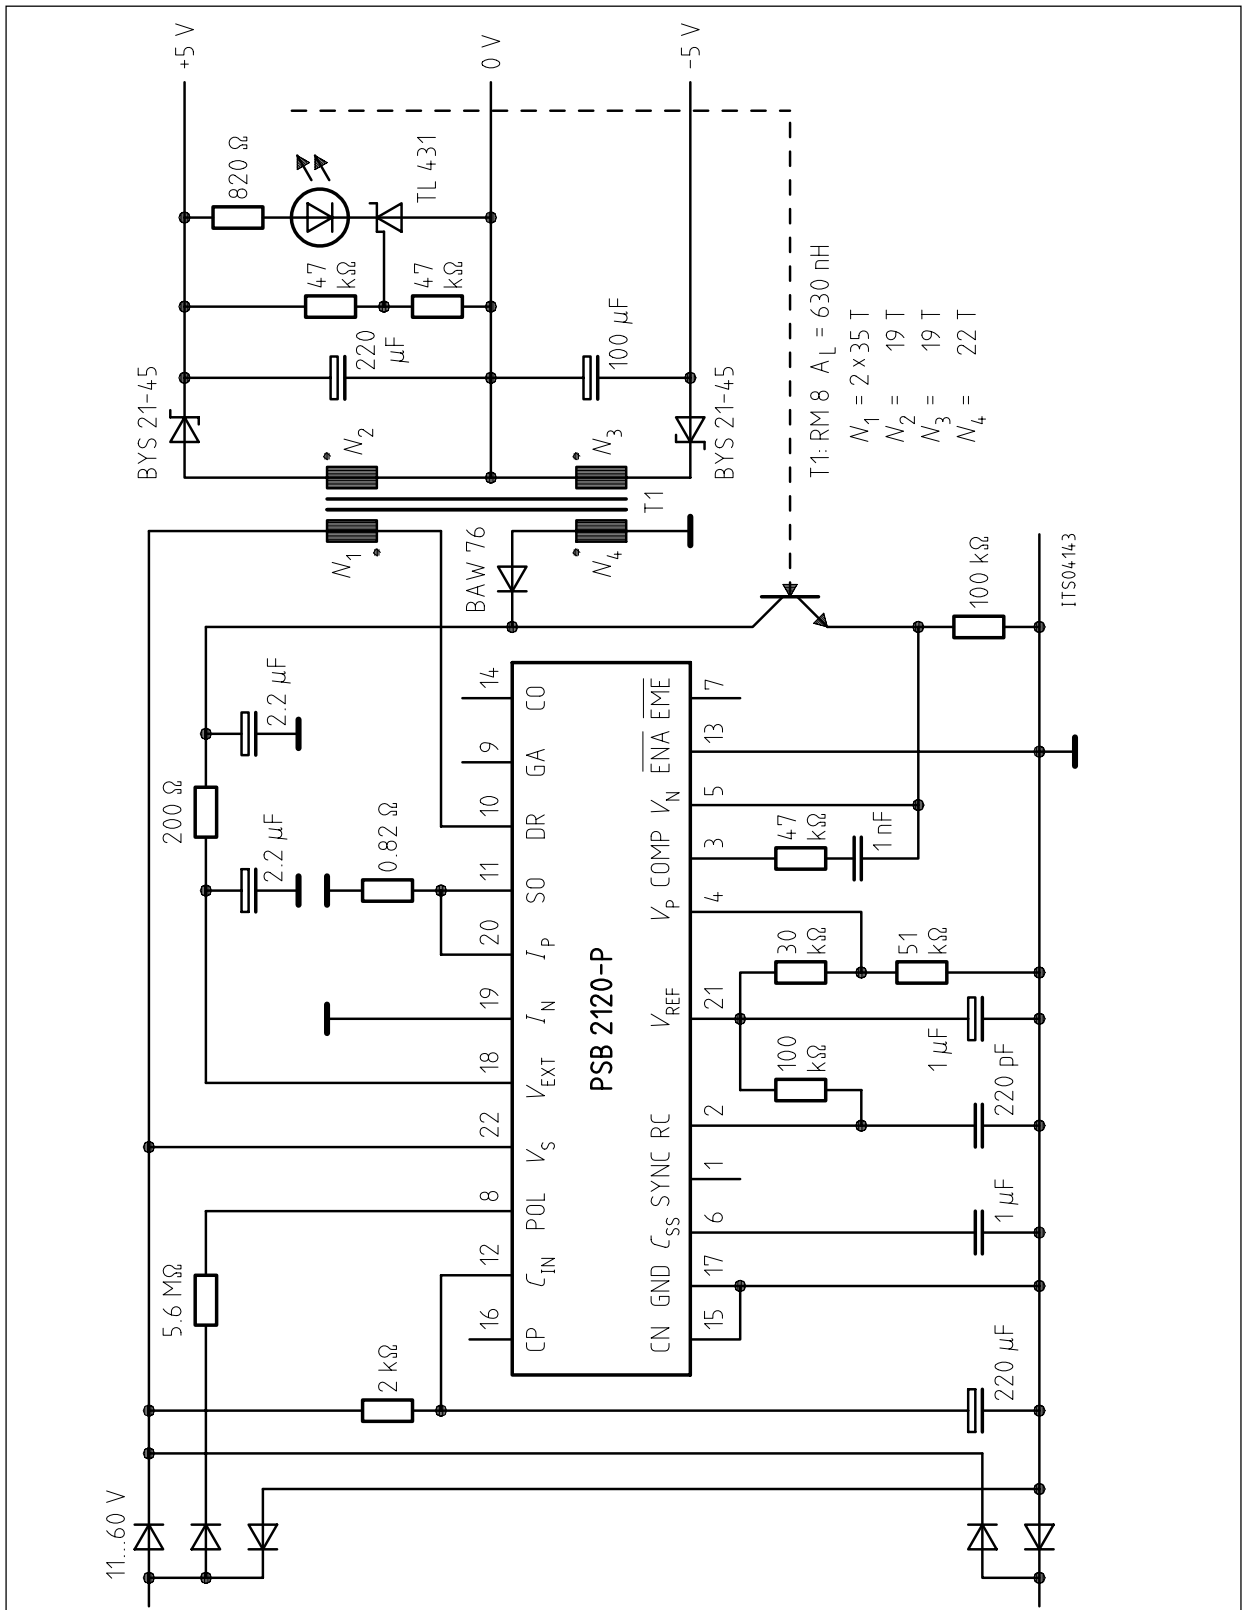

Figure 9
**Figure 9** shows the PSB 2120 in flyback configuration with opto isolation, which is useful for a high reliability galvanically isolated application.